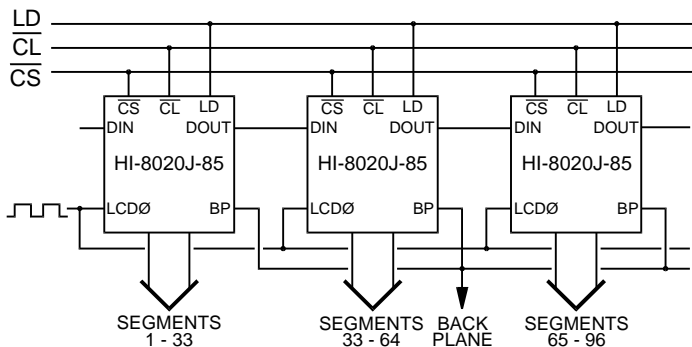

Figure 2
The backplane output functions in 1 of 2 modes; externally driven or self-oscillating. When the LCD $\emptyset$  input is externally driven with the LCD $\emptyset$ OPT input open circuit (Figure 2), the backplane output will be in-phase with LCD $\emptyset$ . Utilizing the self-oscillating mode, inputs LCD $\emptyset$  and LCD $\emptyset$ OPT are tied together and connected to an RC circuit (Figure 3). A 150K $\Omega$  resistor with a 470pF capacitor generates an approximate backplane frequency of 100Hz. The LCD $\emptyset$ /LCD $\emptyset$ OPT oscillator frequency is divided by 256 to determine the backplane output frequency. The resistor value (R) must be at least 30K $\Omega$  for proper self-oscillator operation.
For displays having a number of segments greater than 38, two or more of the display drivers may be cascaded together by connecting the serial data output (DOUT) from the first driver, to the serial data input (DIN) of the following driver, etc. (See Figures 2 & 3). Data out (DOUT) will change state